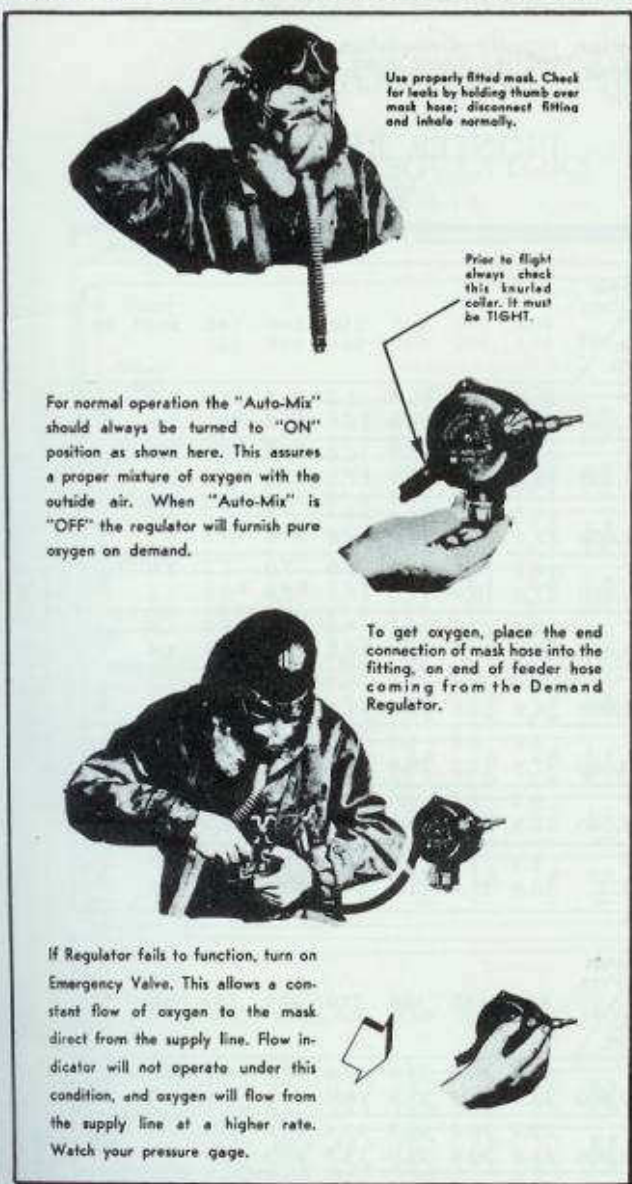

Figure 16 - Use of Oxygen
b. **REGULATORS.** - A type A-12 demand regulator and an indicator panel are located at each crew station. (See figure 16 for operation.) Power turrets are equipped with A-9A constant-flow regulators in airplanes having separate turret cylinders.